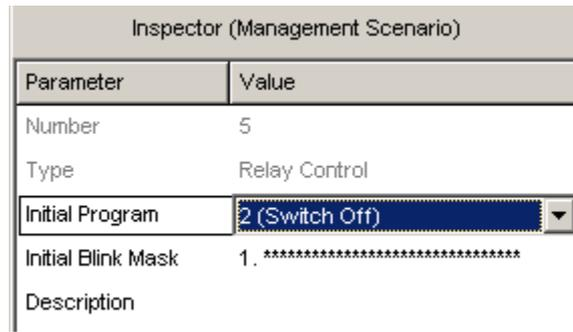

Figure 49
- ✓ Define a relay initial condition which is common for the entire scenario and (optionally) a textual description for the scenario in the Inspector (see Figure 49). The initial condition for the relay describes the behavior of the relay output for each system conditions that are not included in scenario conditions. The initial condition features by two parameters namely an Initial Program (usually "2 (Switch Off)" but sometimes "1 (Switch On)") and Initial Blink Mask (it is worthwhile only for initial programs #5 - #8).